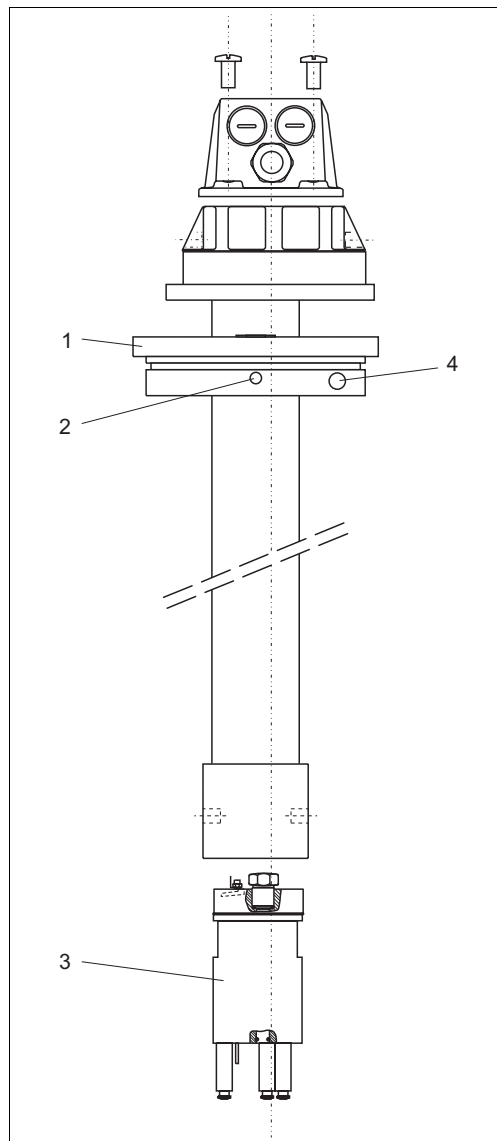

Fig. 11: Version F for pendulum frame mounting
4. Screw the knurled thumb screws into the bore holes M8 (Fig. 11, pos. 2).